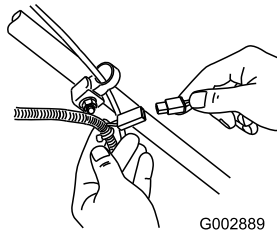

Figure 45
1. Connect the charger to the mower wire harness located below the ignition key (Figure 45).